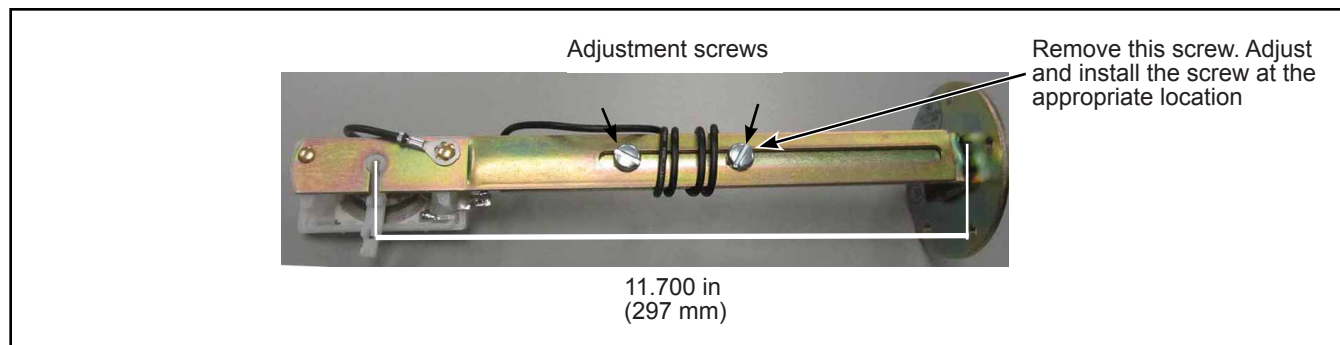

Figure 7 - Fuel Level Gauge Length Adjustment
1.10.3. Adjust the fuel level gauge to the length specified in Figure 7.